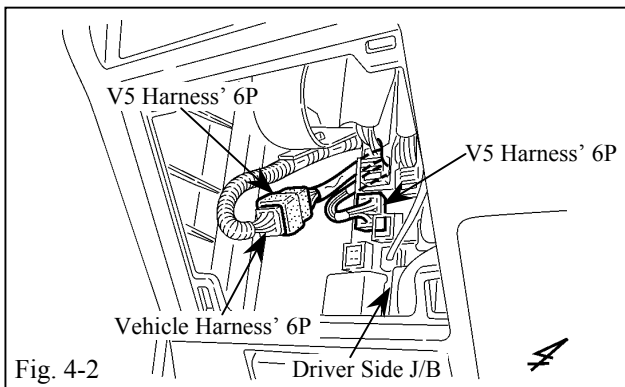

Fig. 4-2
- (b) Plug in the V5 harness' white 6P connectors between the vehicle harness' 6P connector and the driver side J/B. (Fig. 4-2)
- (1) Verify the connectors are plugged in securely.